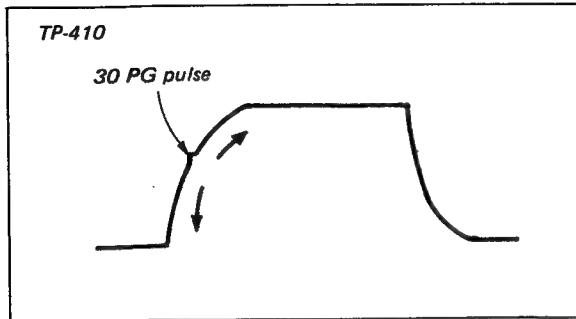

Fig. 6-5. Servo response-time adjustment
5. Adjust R454 to set the position of the 30 PG pulse with respect to the 30 Hz multivibrator ramp as shown by "T" in Fig. 6-5.
Observe the waveform on the scope. The PG pulse will move up and down a few times and then lock on the 30 Hz multivibrator ramp as shown in Fig. 6-5.